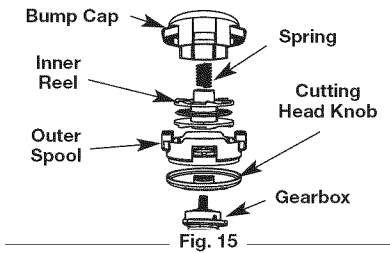

Fig. 15
1. Firmly press in on the tabs that are on each side of the cutting head. (Fig. 15)
2. Detach the bump cap either by letting it pop off, or a slight wiggle of the cap may be required to pull it off the outer spool (Fig. 15)
4. Place the inner reel back into the outer spool (Fig. 15).